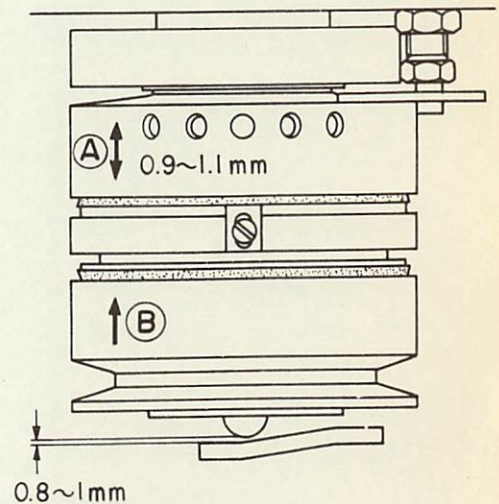

Fig.10
\* The moving range of (A) at both idle running and at high speed running of the pulley should be 0.9~1.1mm(1/32~3/64") (Fig.10)